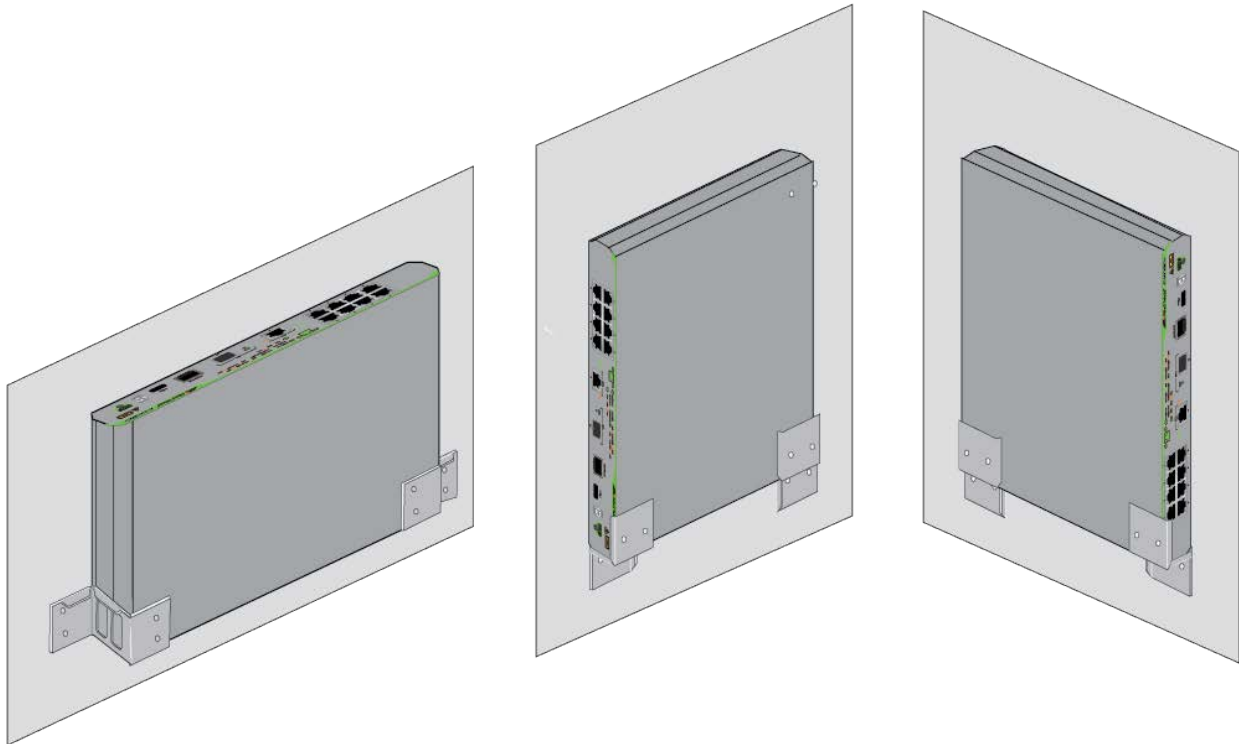
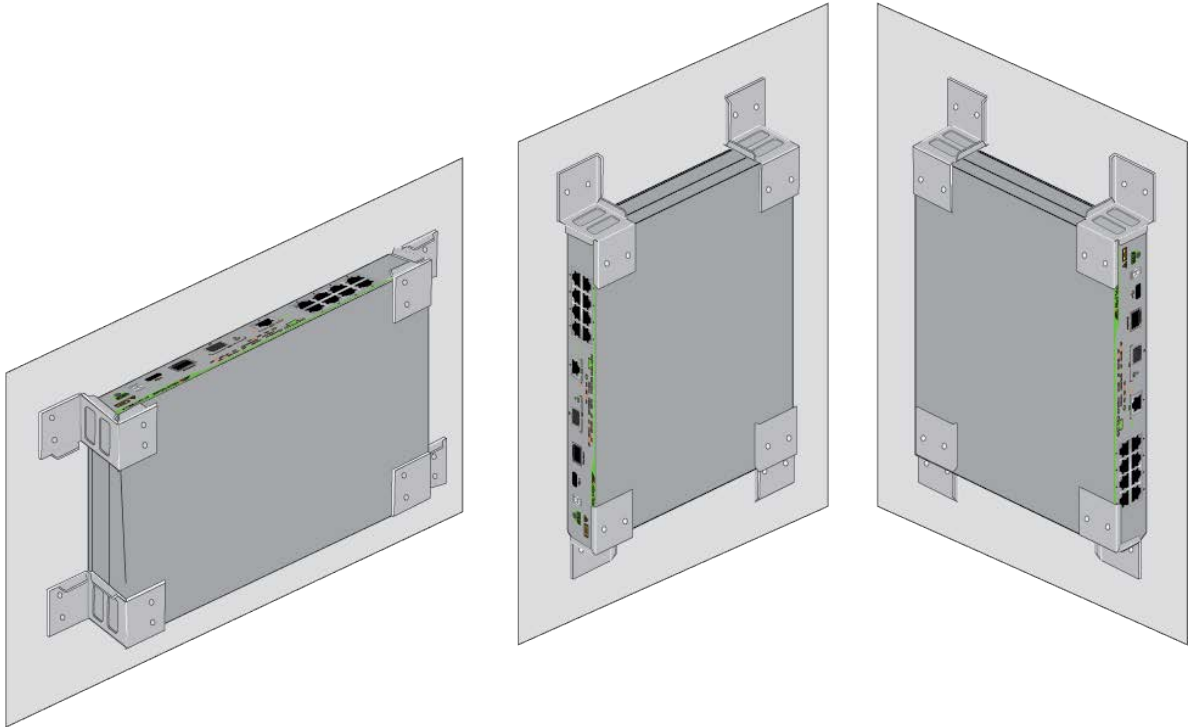

Figure 47. GS970EMX/10 Switch with Two BRKT-J23 Wall Brackets
Figure 48. GS970EMX/10 Switch with Four BRKT-J23 Wall Brackets
You can install the switch with the front panel facing up, left or right, with two or four brackets. Figure 47 shows the switch with two brackets.
Figure 48 shows the switch with four brackets.
- ❑ As shown in Figure 47 on page 86 and Figure 48 on page 87, the BRKT-J23 wall brackets secure the device by its sides. Installing the brackets over the front or rear panel will block copper ports or the AC power connector.